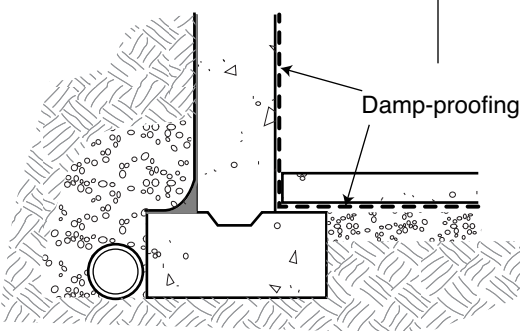

FIGURE 29
- ◆ Seal the joint between the floor slab and the foundation wall with a durable caulking—either a single-component urethane or a single-component silicone—or extend polyethylene from below the slab-on-ground up the wall (see Figure 29).